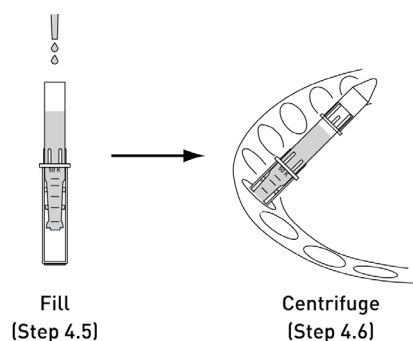

Figure 5 Purification and concentration of azide-modified antibody
**4.5** Add 1.6 mL of 1X Tris pH 7.0 (or TBS) and 250  $\mu$ L of the azide-modified antibody from Step 3.3 to the large antibody concentrator (Component I) as shown in Figure 5.